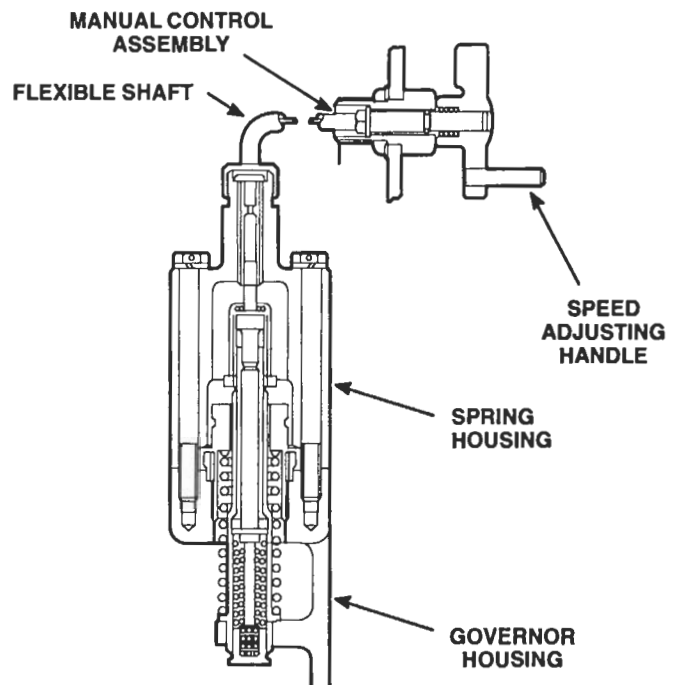

Figure 1. Cable Operated Governor Spring Housing
The finished surface of the operating fork must be placed against the outer side of the thrust bearing as shown in Figure 1 in Section 2.7.1.
10. Refer to Figure 1 in Section 2.7.1 and position the fuel rod over the differential lever pin. Place a flat washer over the pin and secure it with the retainer.
During highway operation, the governor functions as a limiting speed governor, controlling the engine idling speed and limiting the maximum operating speed. At the unloading area, the throttle is left in the idle speed position and the speed adjusting handle, on the cable operated governor (Figure 1.) is turned to the speed required within the above range to operate the auxiliary equipment.